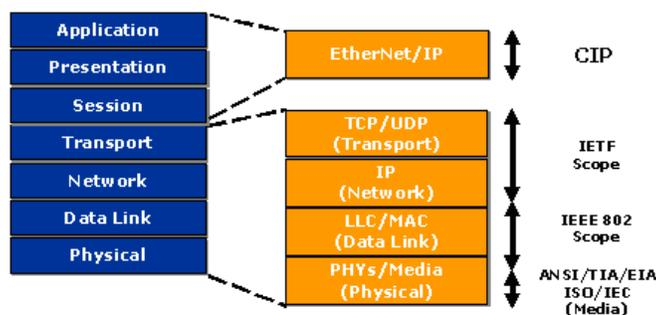

Figure 3
- The lower layers of EtherNet/IP are based on the various RFC internet standards for the TCP/UDP/IP suite, on the IEEE 802.3 and ISO Ethernet standards (**ISO/IEC 8802-3**), without modification or extension (Figure 3).